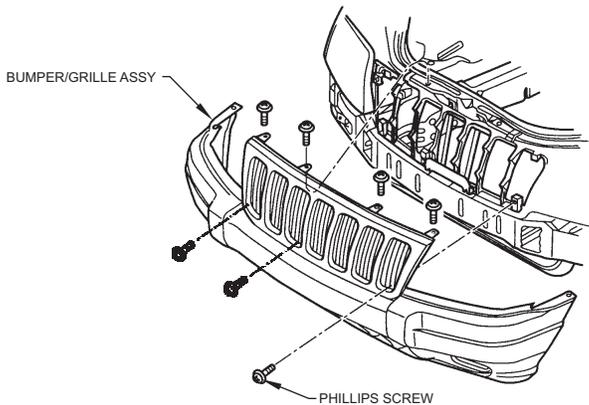
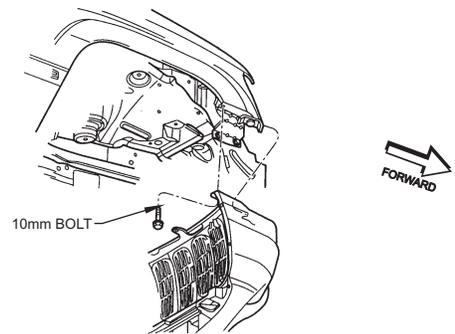
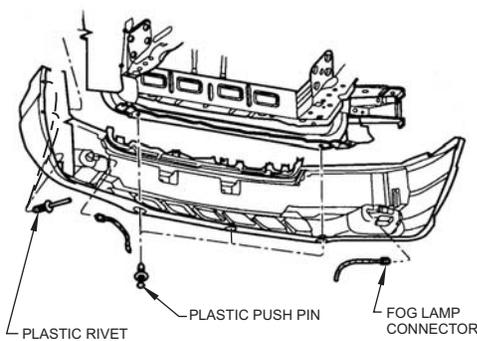

FIGURE 2A
FIGURE 2B
FIGURE 2C
- STEP 3. To install mount brackets, removal of bumper/grille is necessary. Remove seven Phillips screws from grille, (four above grille, and three on lower front of grille) (Figure 2A). Remove (2) 10mm bolts from bumper, located at front/inside of fender, using nut driver (Figure 2B). Cut out (6) plastic rivets from inside of front fender, three on each side (replacements provided). From beneath vehicle, remove three pin retainers from bottom/center of bumper with flat screwdriver and disconnect fog lamp connector, (if equipped)(Figure 2C). Pull bumper/grille straight out from vehicle.